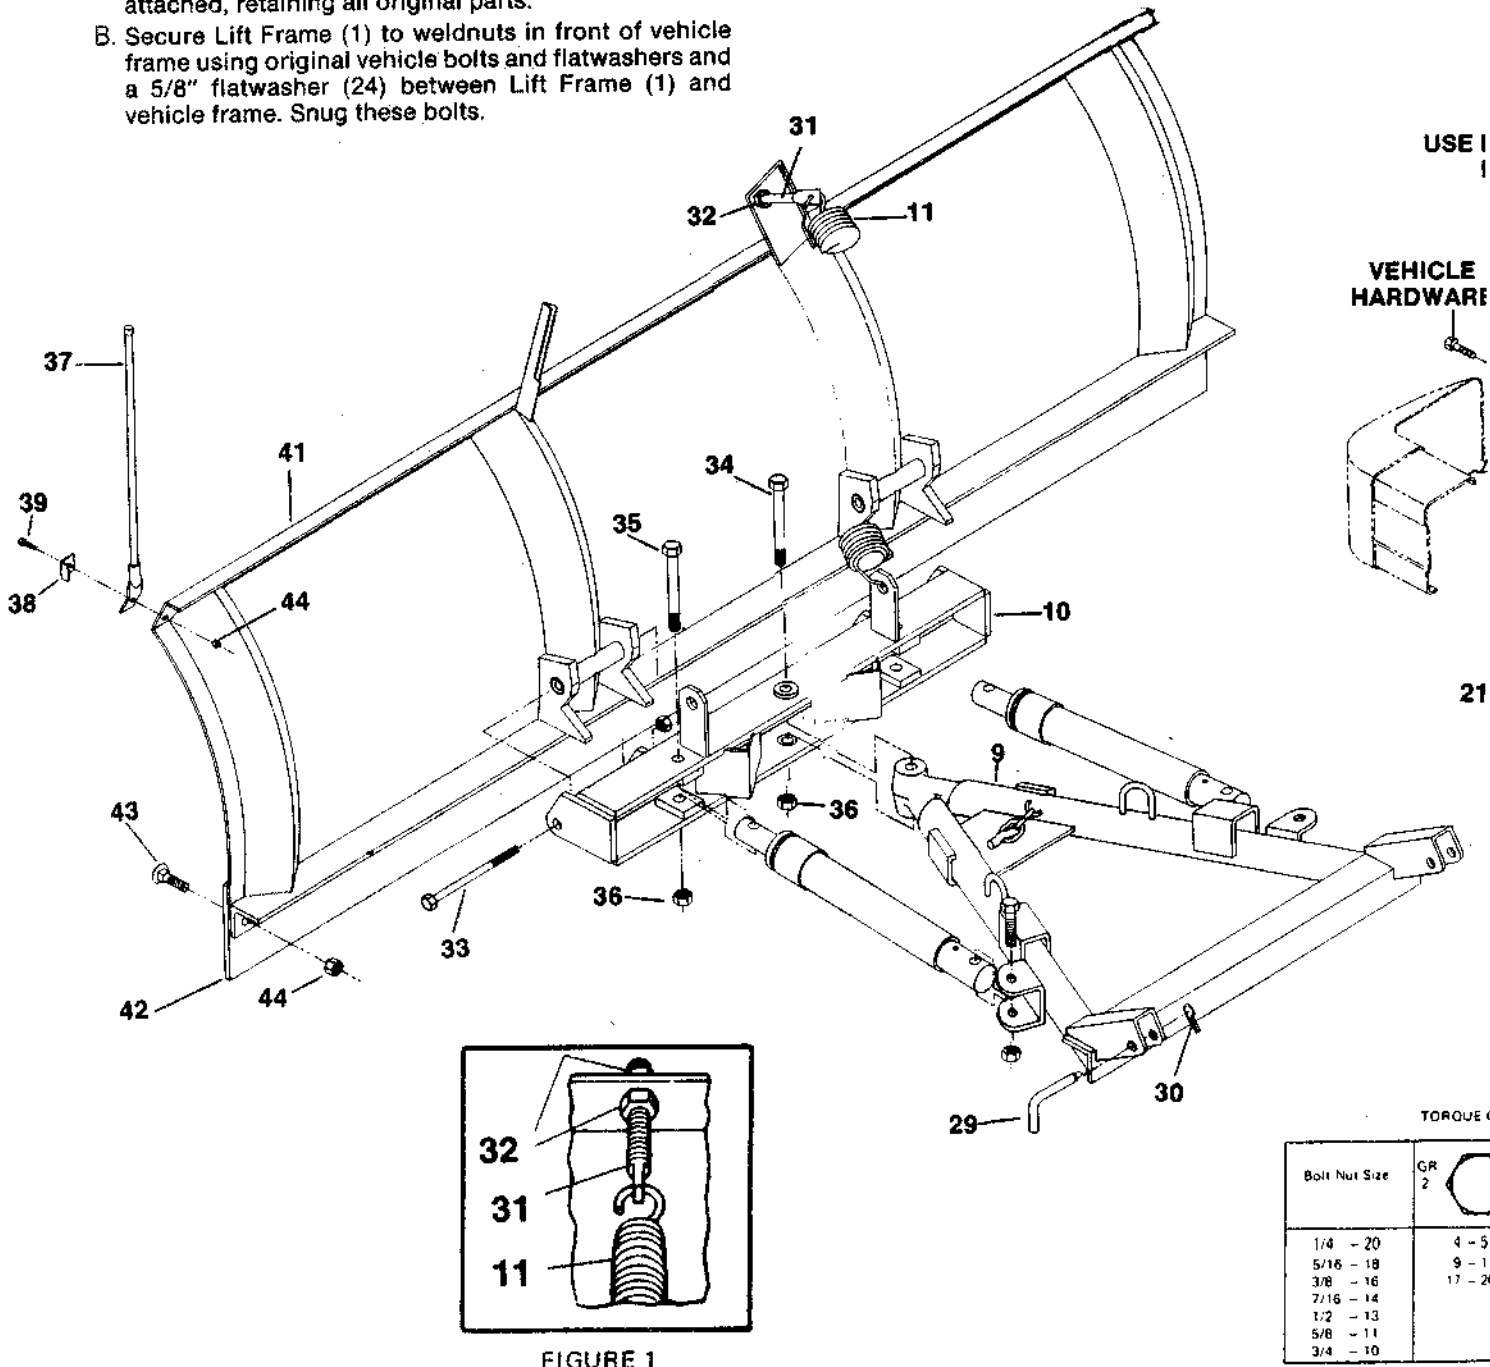

FIGURE 1
M. Attach Trip Springs (11) to Pivot Bar (10) and Moldboard (41) with Eye Bolts (31) and Locknuts (32). Flat End of Eye Bolt (31) must be in a vertical position, as shown in Figure 1, to hinge properly when Moldboard (41) trips. Proper tension is attained when Trip Spring (11) coils begin to separate and then tightening top Locknut (32) four additional turns. Tighten bottom Locknut (32) to secure Eye Bolt (31) in position. See Figure 1.
N. Assemble A-Frame (9) to Pivot Bar (10) using King Bolt (34) and 5/8" Locknut (36). Grease King Bolt (34) prior to installation.
O. Install Power-Angling Rams with fitting end to the A-Frame (9) Clevis using 5/8" x 3-1/4" Bolt and 5/8" Locknut (packed in hardware bag 08363 in Electro-Touch carton). Attach piston end of Ram to Pivot Bar (10) using 5/8" x 4-1/2" Bolt (35) and 5/8" Locknut (36).
P. Straighten end of Plow Markers (37) so they will be vertical after installation. Attach using 1/4" x 1" Bolt (43), Clamp (38) and 1/4" Locknut (44).
Q. Secure the Moldboard-Pivot Bar-A-Frame assembly to vehicle at Clevis Frame (4) using Hinge Pins (29) and Spring Clips (30). Attach Lift Chain to Lift Arm (3) allowing sufficient slack to allow Moldboard to follow ground contours.